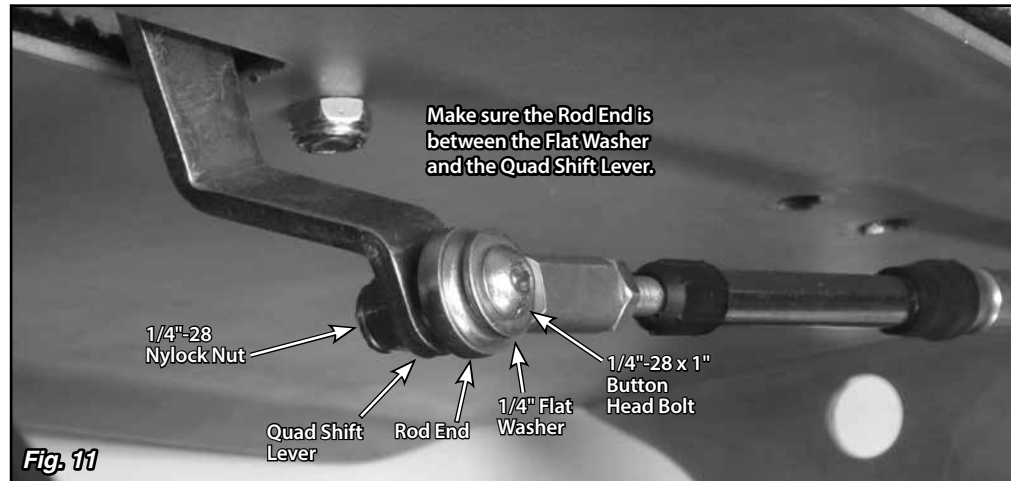

Fig. 11
Step 16: Route the cable up to the shifter and attach the other rod end to the quad shift lever using a 1/4"-28 x 1" button head bolt, flat washer, and nylock nut. *Fig. 11* The button head bolt can be installed from either direction, but make sure the rod end is sandwiched between the quad shift lever and the flat washer. When routing the cable, make sure that it is not touching the exhaust or any moving parts. The cable should be routed as smoothly as possible without any sharp bends.